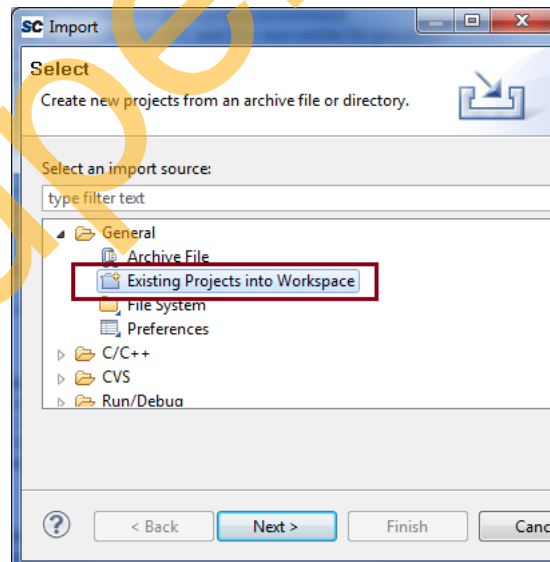

Figure 12 • Import the Existing Projects
6. Double-click the **Existing Projects into Workspace** under **General** folder as shown in Figure 12.